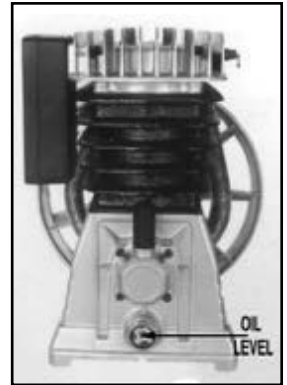

Fig. 1 Oil level indicator
4. ADD OIL TO THE CRANKCASE. Oil has NOT been supplied in your air compressor. The oil level should be in the centre of the oil sight gauge on the pump. Use proper compressor oil only. See figure 1 below.